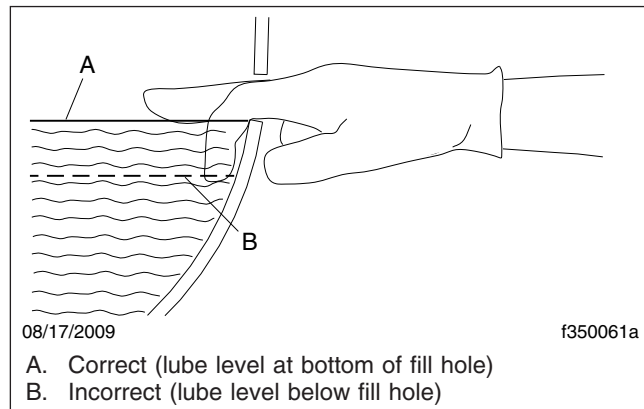

Fig. 4, Axle Lubricant Level Check
4. Check the level of the lubricant. The lubricant must be level with the bottom of the oil fill hole (see Fig. 4). If low, check for oil leaks (and make corrections as needed), and add oil to the level of the fill plug.